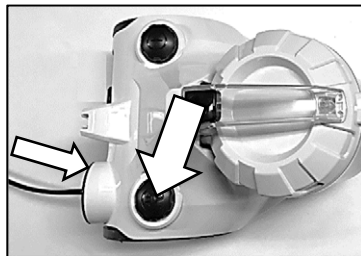

Fig 7
7. **Cord rewinding:** Hold the plug and pull out the cord; press the cord rewinding pedal, that power cord will be drawn in. If cord rewind stop, pull the cord and press the button again to rewind. Repeat the process until the cable is completely wound into the device. (Fig 7)